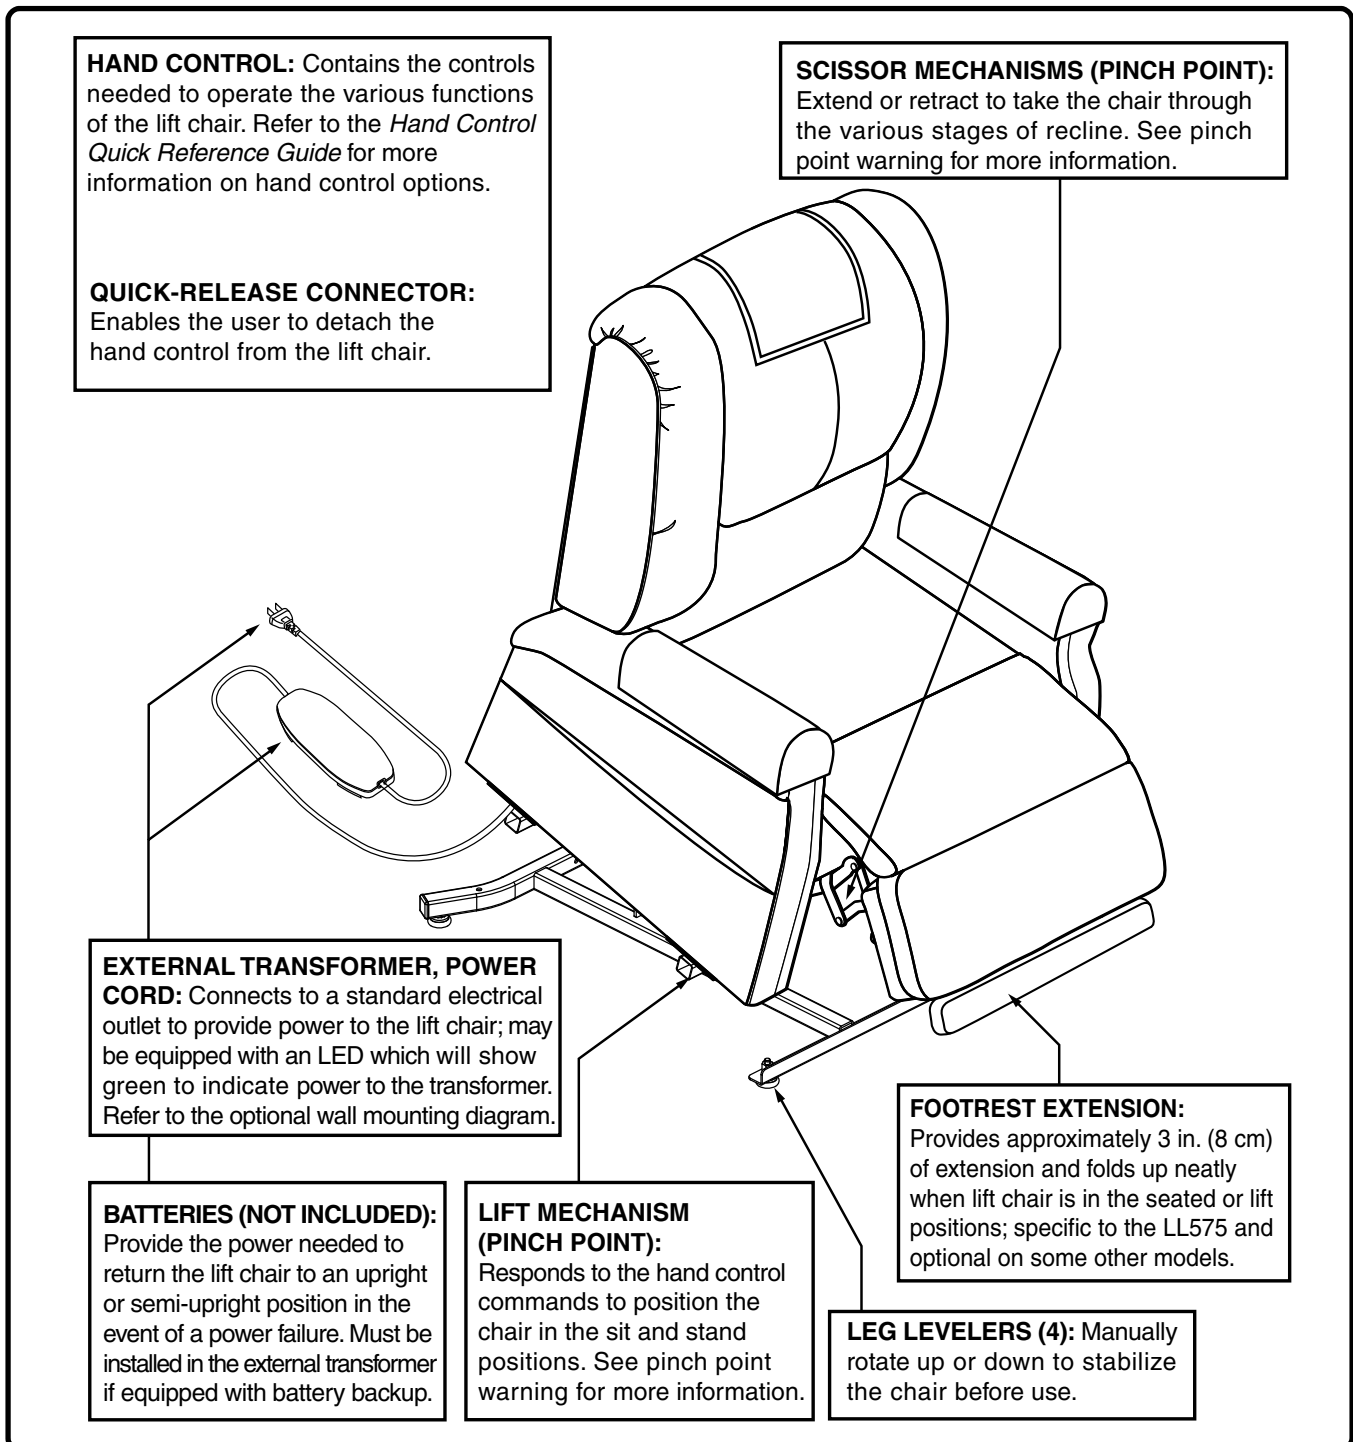

Figure 3.1 Lift Chair Main Components
The scissor and lift mechanisms are labeled as pinch/crush point hazards on your lift chair. Keep clear of these areas and make sure the path of motion is unobstructed. See **figure 3.1** for pinch/crush point locations.
Lift chairs are equipped with several frame and electrical components. Typically, frame (or body) components include a removable back pad*, removable chaise pad*, footrest, leg levelers, a lift mechanism, and scissor mechanisms. The electrical components include the external transformer, hand control, and batteries† (not included). Refer to **figure 3.1** and note that the illustrations and options listed may not reflect the type of lift chair that you own.
2. Adjust the leg levelers to stabilize the lift chair (**Fig. 3.1**).